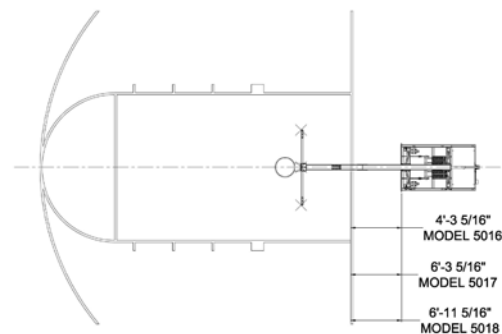

Figure 7
8. Push the unit to the playing location on the court. The unit should be centered on the centerline of the court as shown in figure 7.